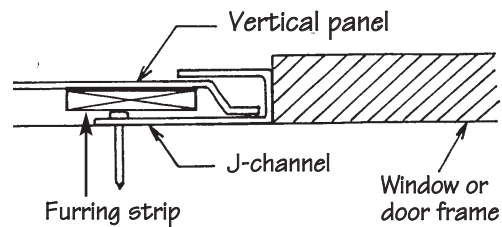

Figure 55.
- If the panel is uncut or cut down in the "V"-shaped groove of a piece of vertical siding, simply insert it into the J-channel, locking the other side onto the previously applied panel (Fig. 55). A furring strip should be installed to prevent panel detachment.